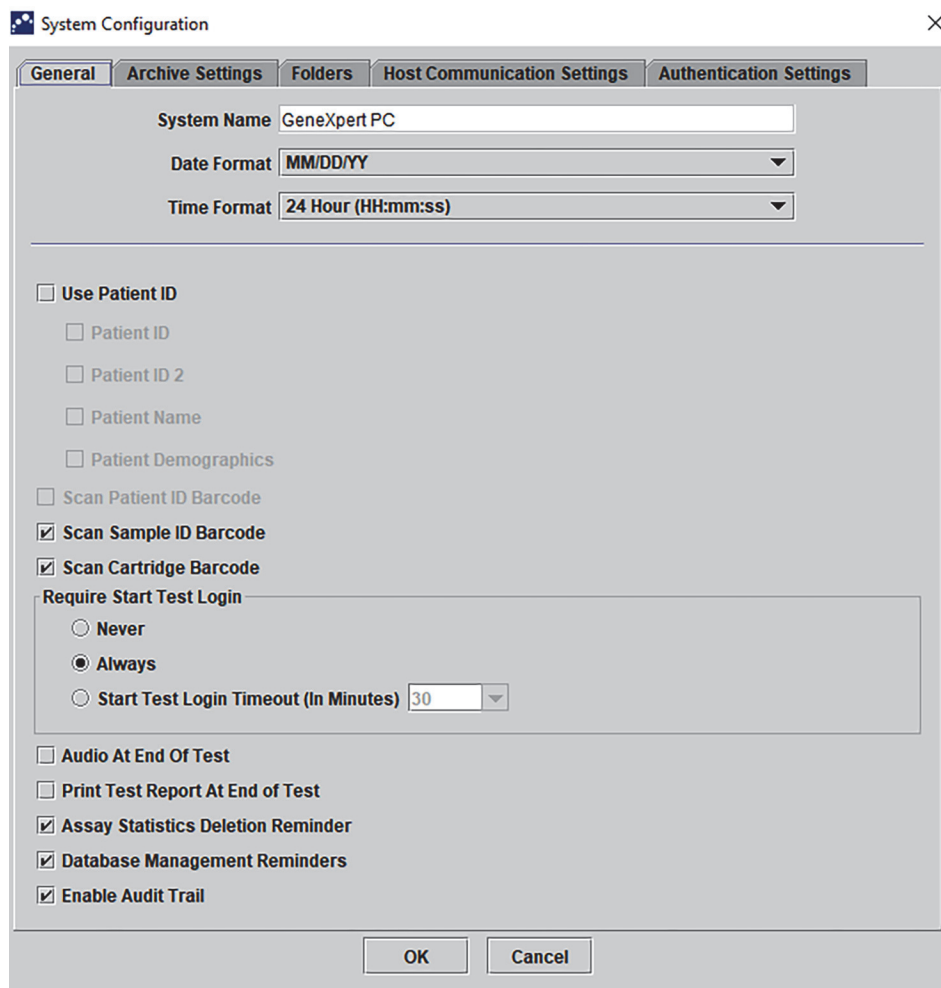

Figure 2-39. System Configuration Dialog Box (General Tab)
1. In the GeneXpert Dx System window (see Figure 2-27), click **Setup** on the menu bar, then click **System Configuration**. The System Configuration dialog box and the **General** tab appears. See Figure 2-39.